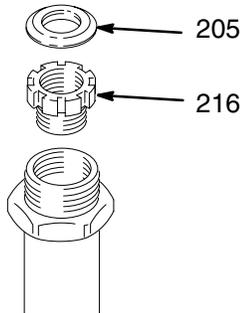

Fig. 29
- Loosely install the packing nut (216) and plug (205). See Fig. 29.